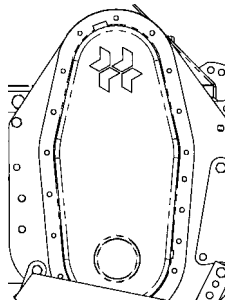

Fig. 2
1. The gearcase filled to the level plug (A) (fig. 2) Capacity: 2l. Use SAE 90 oil.